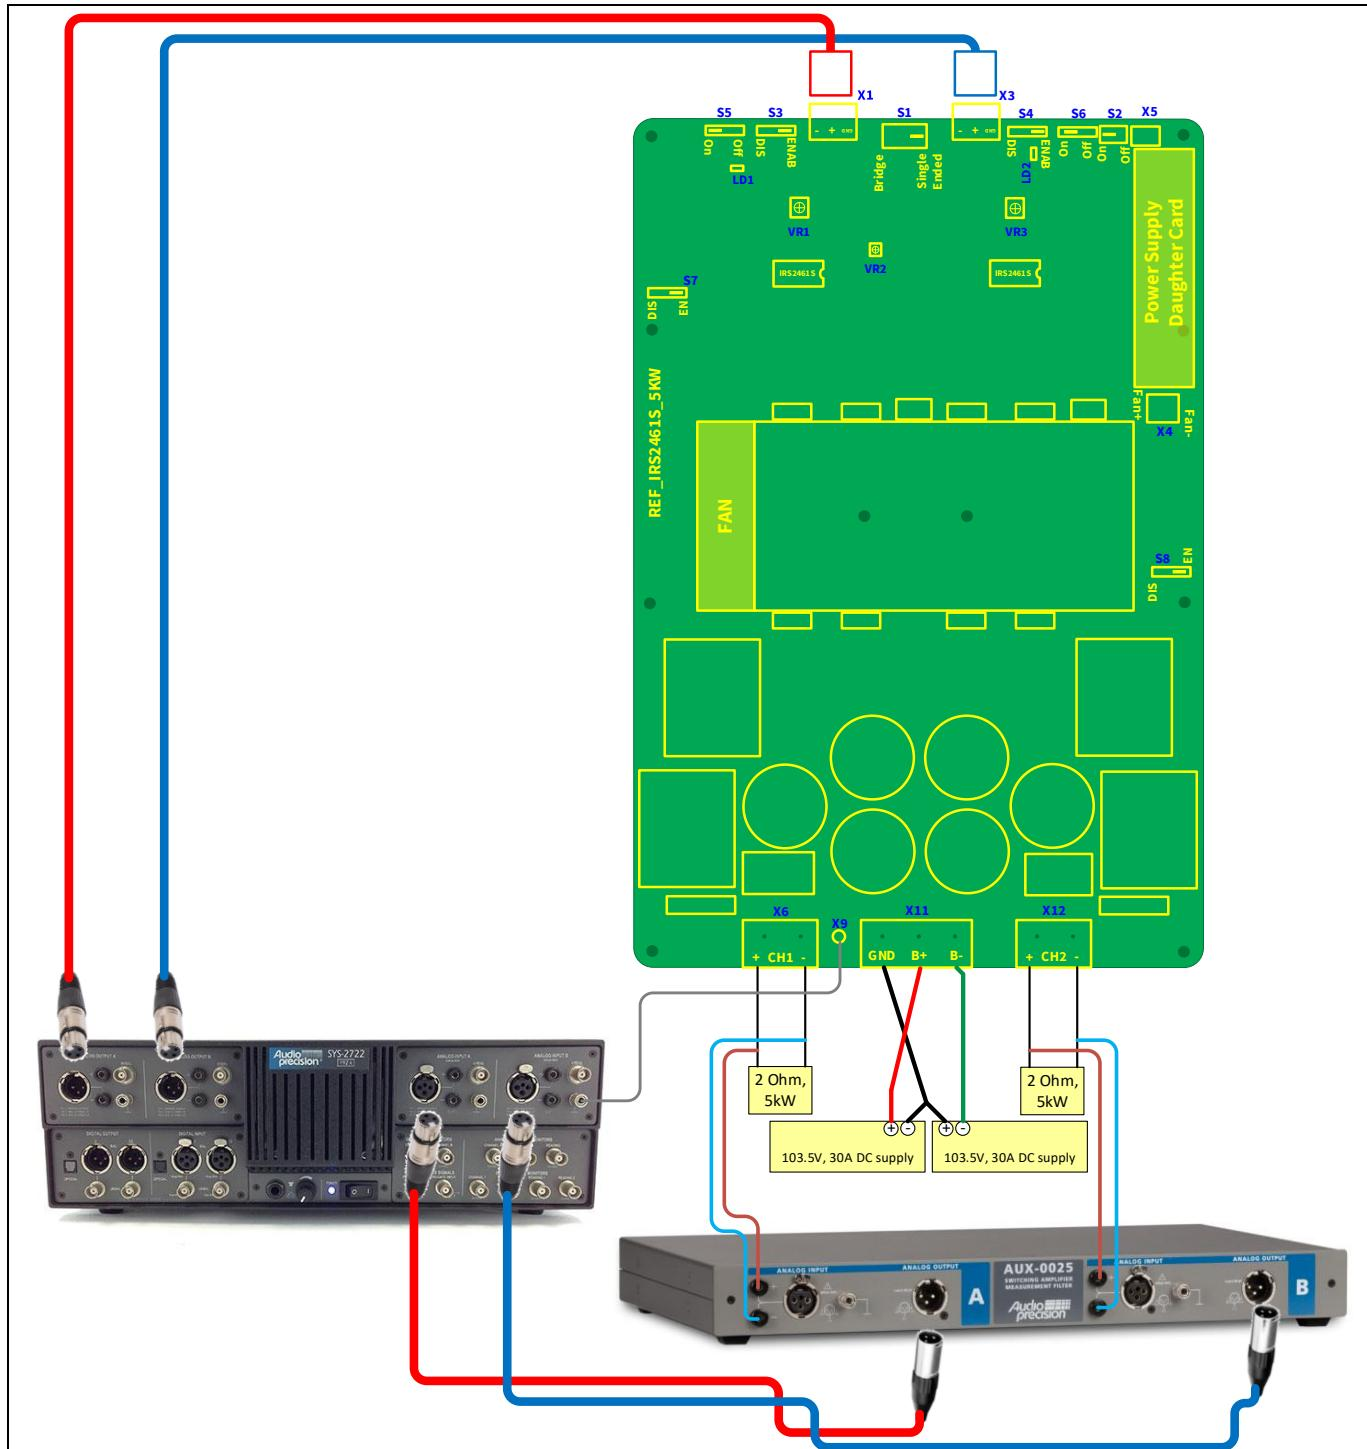

Figure 5 Audio Precision (AP) connection
REF_IRS2461S_5KW and AP shall be connected according to the Figure 5.
1. Connect $2\Omega - 5000W$ dummy loads to the output connectors (X6, X12 as shown in Figure 5)
2. Connect the Audio Precision (AP) analyzer signal generator output to X1 and X3. Use Balanced connection with $Z_{out} \leq 20\Omega$.
5. Set AP's analog analyzer to 20kHz AES17 filter. It is also recommended to introduce the AUX-0025 filter in the setup only at this stage as shown in Figure 5. If the AUX-0025 filter is added before this step, the audio analyzer will not be able to accurately detect the self-oscillation frequency.
7. Set AP's analog analyzer to 20 kHz AES17 filter. It is also recommended to introduce the AUX-0025 filter in the setup only at this stage as shown in Figure 5. If the AUX-0025 filter is added before this step, the audio analyzer will not be able to accurately detect the self-oscillation frequency.